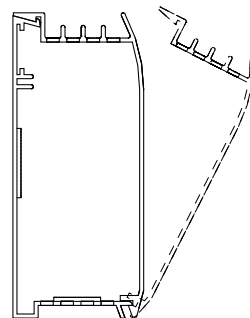

Fig. 5
17. Before energizing, make sure front cover is properly locked onto the back housing along the entire length of the heater, see Fig. 5. Do not operate heater without front cover installed.
- Replace front cover by latching the bottom front edge of the front cover over the bottom front edge of the back and pushing the cover straight back to latch the top rear edge of the back with the top rear edge of the front cover. See Fig. 5.
- Replace front covers following Step 10 under **Single Unit Installation**, (See Fig. 5.)
5. Replace front cover as shown in Fig. 5 making sure it is locked in position along length of heater. Restore power to heater and verify it is operating properly.